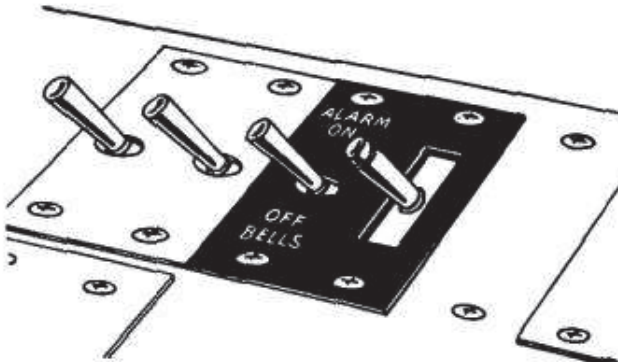

Figure 67 — Alarm Bell Switch
a. The alarm bell switch controls bells located in each compartment of the airplane. (See figure 67.)